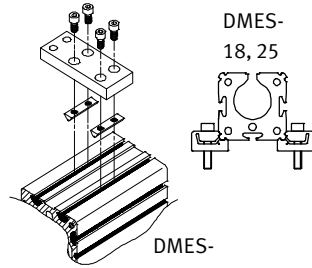

Fig. 6
- Place the central supports on the DMES in accordance with Fig. 6.